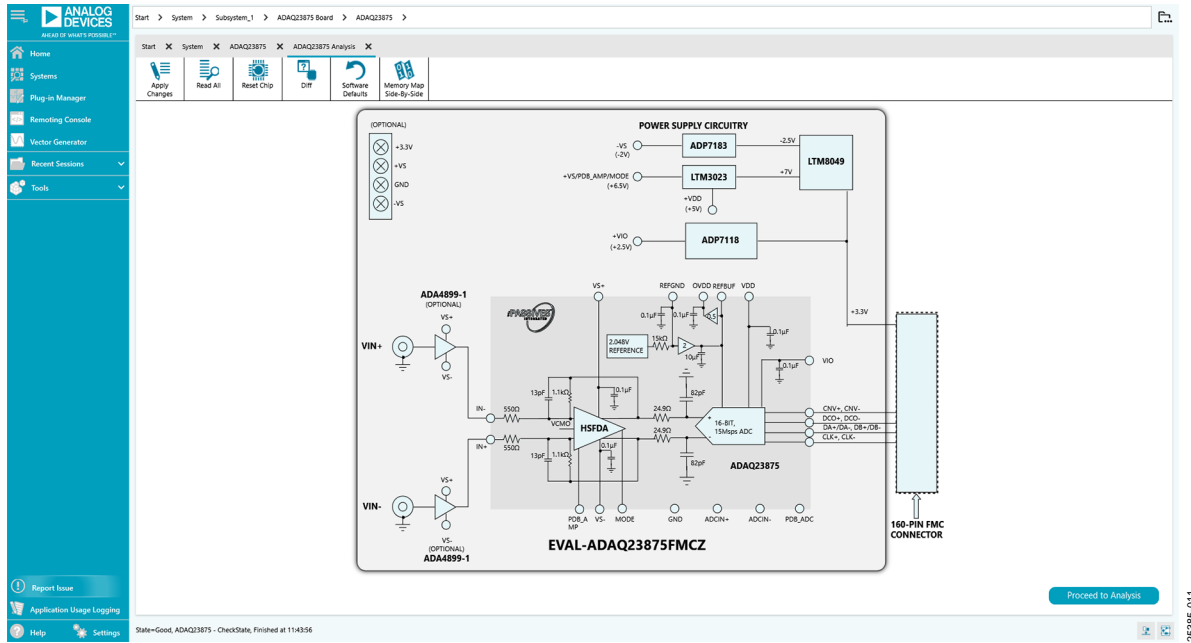

Figure 11. EVAL-ADAQ23875FMCZ Board View
6. Click **Proceed to Analysis** to open the EVAL-ADAQ23875FMCZ analysis shown on Figure 11.